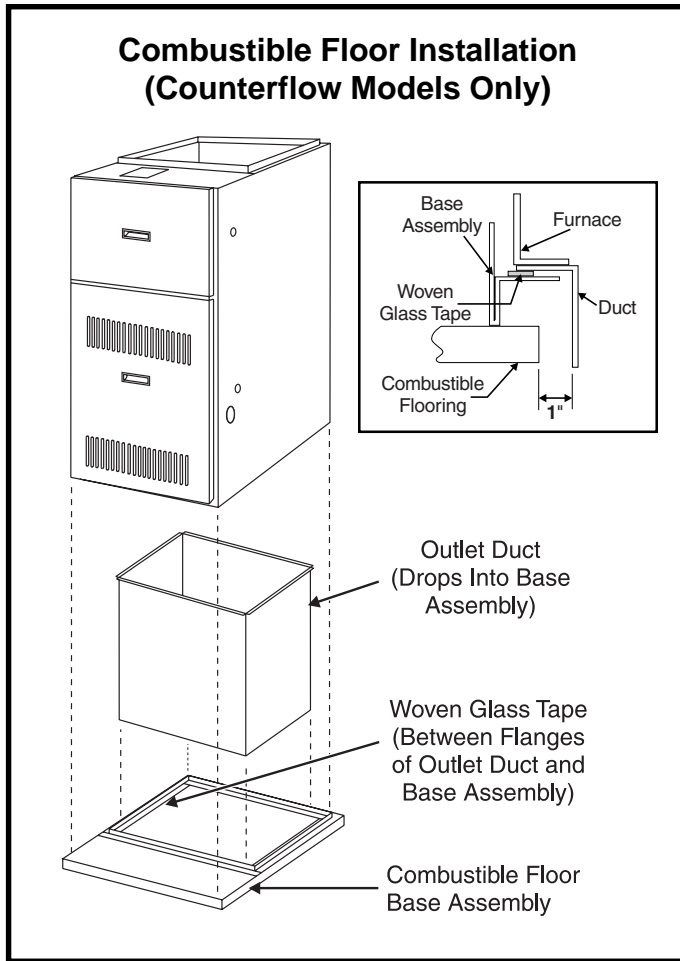

Figure 12
1. Cut a hole in the floor, sized to provide 1" clearance between all four sides of the duct and the edge of the flooring (see Figure 12). The four angles on the base assembly should recess into the floor joists and the base should rest on all four outside flanges.